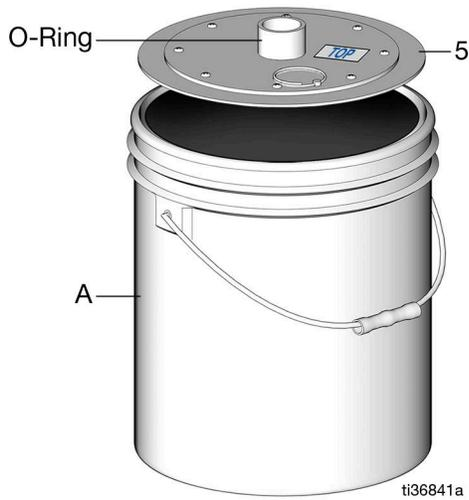

FIG. 5
2. Remove and discard the cover from the grease bucket (A) (user supplied).
3. Place the follower plate (5), top side up (label facing upward), on top of the grease (FIG. 5).
4. Grease the o-ring at the center of the follower plate (FIG. 5).
5. Firmly press the follower plate down into the grease to remove all air pockets (FIG. 5).